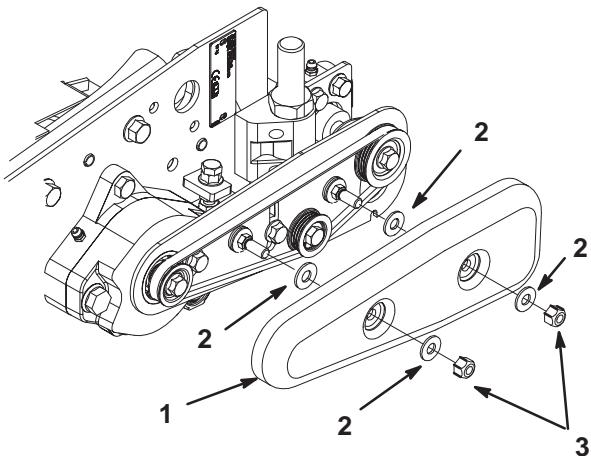

Figure 14
31. Insert a washer onto each cover mounting bolt (Fig. 14).
32. Slide belt cover onto mounting bolts and secure with (2) washers and lock nuts (Fig. 14). **Do not overtighten nuts as damage to cover may occur.**